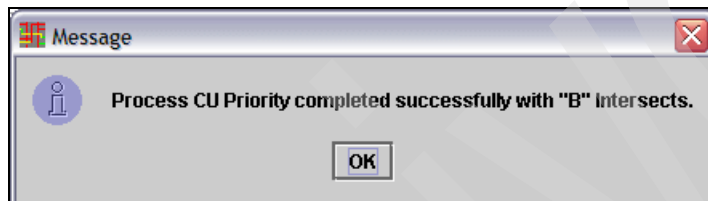

Figure 3-60 CMT - Process CU Priority completion message
3. Click **Process**. After the CHPID Mapping Tool has reset the CHPIDs, it displays a message indicating the results of the process (Figure 3-60).